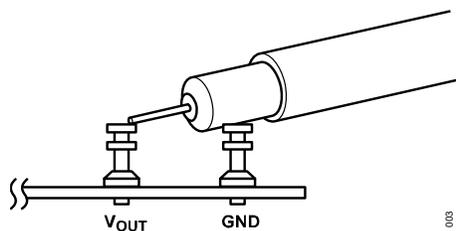

Figure 3. Scope Probe Placement for Measuring Output Ripple Voltage
- Once the input and output voltages are properly established, adjust the input voltage between 6V to 14V max and the total load current within the operating range of 0A to 125A max. Observe the output voltage regulation, output voltage ripples, switching node waveform, load transient response, and other parameters. See Figure 3 for proper output voltage ripples measurement.
To measure the input/output voltage ripples properly, do not use the long ground lead on the oscilloscope probe. See Figure 3 for the proper scope probe technique. Short, stiff leads need to be soldered to the (+) and (-) terminals of an input or output capacitor. The probe's ground ring needs to touch the (-) lead, and the probe tip needs to touch the (+) lead.